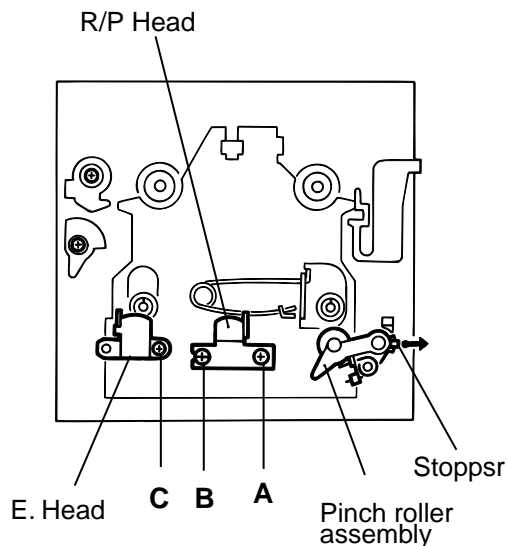
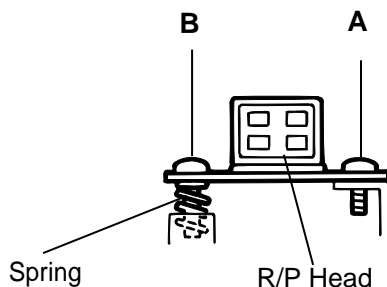

Fig.1
Fig.2
■ Removing the feed motor (See Fig.1)
1. Remove the screw **A** on the right side of the R/P head.(Fig.1, Fig.2)
2. Remove the screw **B** on the left side of the R/P head.(Fig.1, Fig.2)
Remove the screw **C** fixing the erase head.(Fig.1)